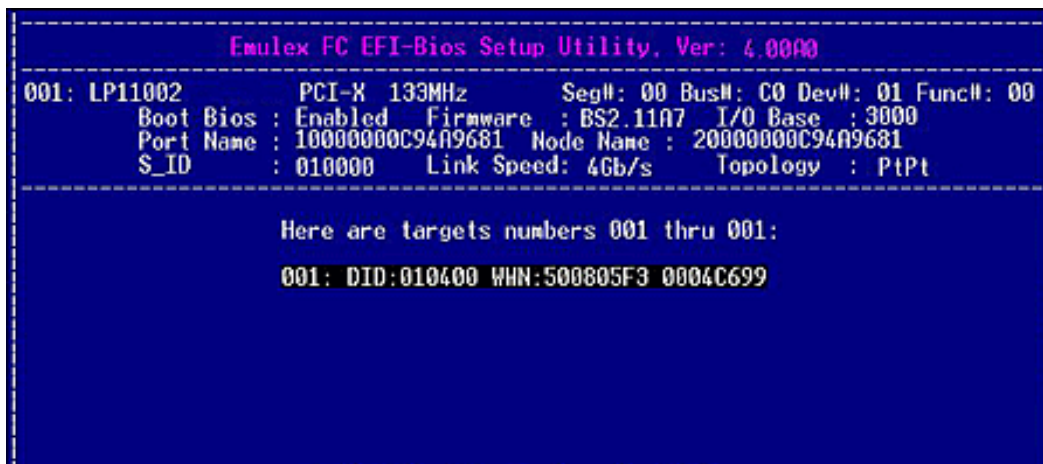

Figure 6-22 Target Listing Screen
4. Select **1. Scan Targets** and press **<Enter>**. The system scans the adapter and shows your targets, as shown in Figure 6-22.